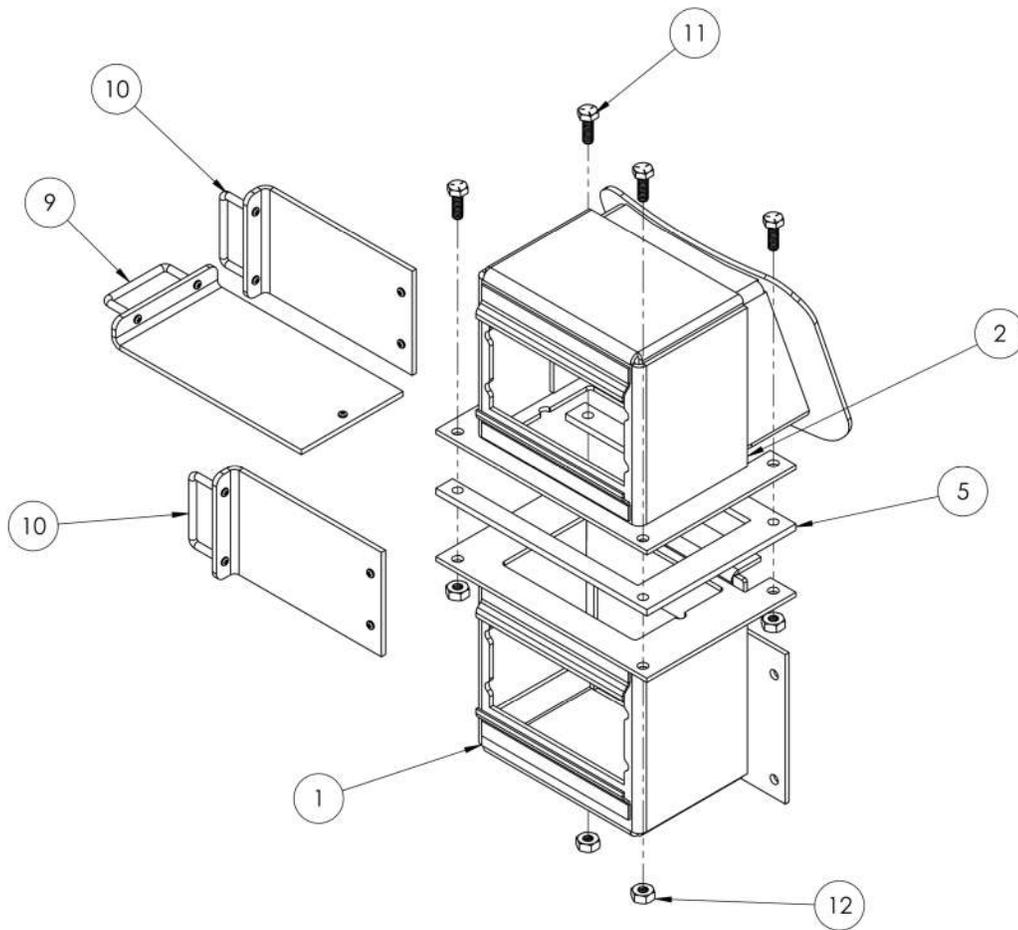

Figure 2
See Figure 2 -
Assemble the chimney. Insert 4 bolts (11) through the chimney top (2), the center damper spacer plate (5), and the lower chimney section (1). Install and tighten the nuts. *NOTE:* orient the center damper spacer plate (5) so that the opening is towards the front depending on which side of the firebox the chimney is to be installed. The orientation shown in Figure 2 is for the right-side installation.